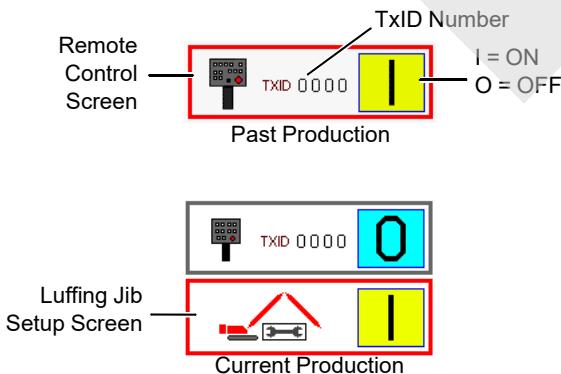

FIGURE 3-30
3. The screen in Figure 3-30 will appear.